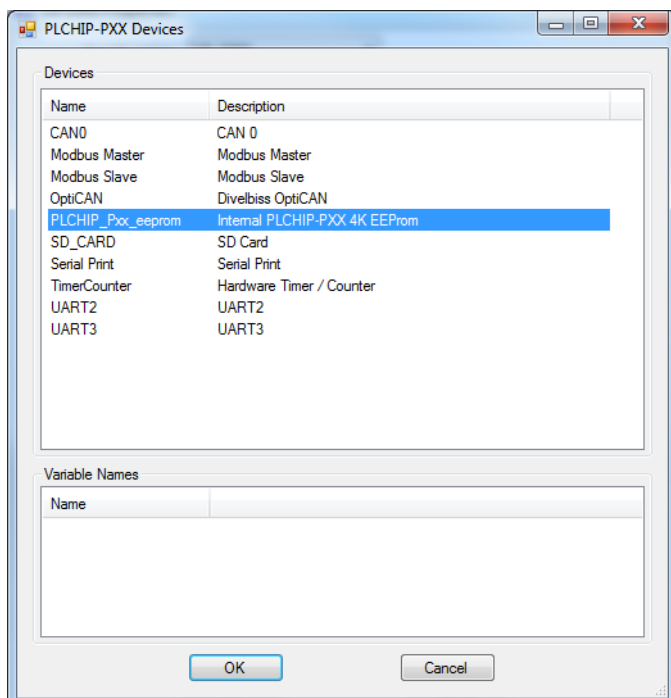

Figure 2-39 - PLCHIP-PXX Devices - EEPROM
4. Click the **PLCHIP_Pxx_eeprom** device (highlight). Refer to Figure 2-39. Click **OK** to install the device and close the PLCHIP-PXX Devices Window. A dialog will open allowing for entering the number of retentive bytes to configure on the EEPROM (Num Retentive Bytes). **This should be set to 0. The on-chip EEPROM is not recommended to use as retentive memory on the VB-2XXX controllers.**